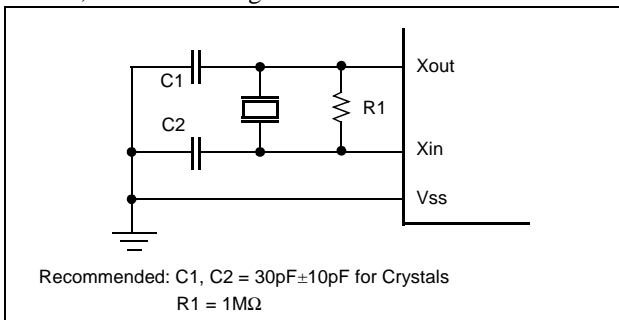

Figure 13-2 Oscillator Connections
XIN and XOUT are the input and output, respectively, a inverting amplifier which can be set for use as an on-chip oscillator, as shown in Figure 13-2 .
- Note:** When using a system clock oscillator, carry out wiring in the broken line area in Figure 13-2 to prevent any effects from wiring capacities.
**Note:** When using a system clock oscillator, carry out wiring in the broken line area in Figure 13-2 to prevent any effects from wiring capacities.